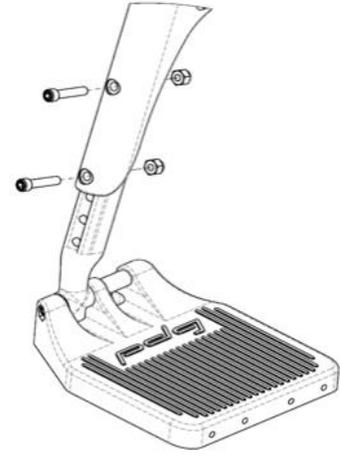

Figure 15.14: Standard Swing-Away footrest height adjustment
- a. Remove any padding and/or calf strap, if fitted. Remove the fastener and nut as shown in Figure 15.14.